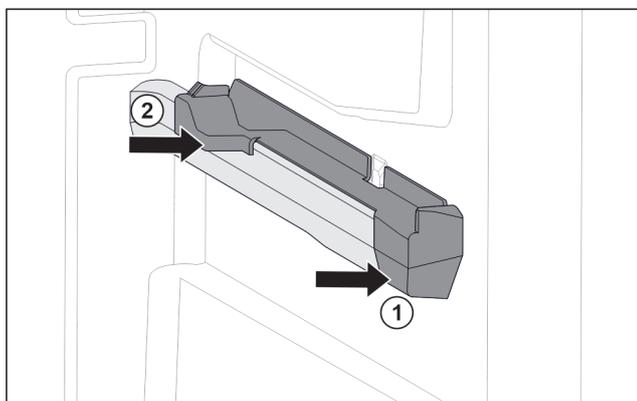

Fig. 68 Attachment on the right moulded rib
- ▶ Position attachment on moulded rib at the front. Fig. 68 (1)
- ▶ Press on attachment at the back. Fig. 68 (2)